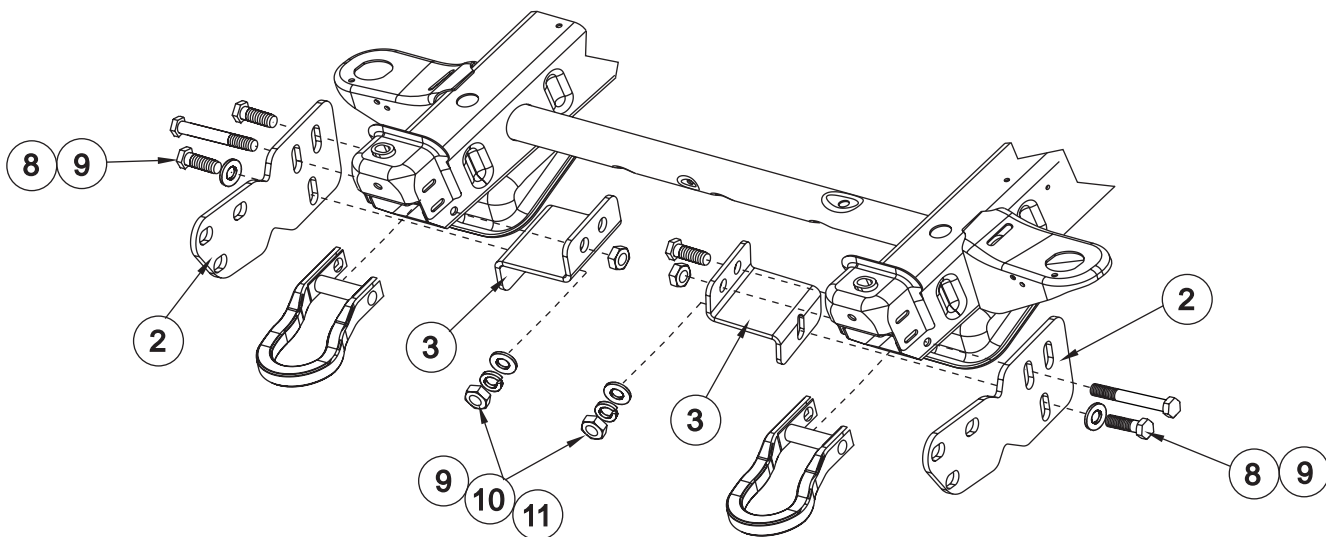

FIGURE 1
- STEP 3. Slide brackets in through the backside of the tow hook pockets. Align upper slots on brackets with holes on the outside of the frame ends. Secure brackets to bracket braces with with included M12 yellow fasteners. Reinstall tow hooks. Secure with factory hardware. **SEE FIGURE 1.** Leave loose. It may be necessary to trim the fascia around the tow hook area in order to properly align the brackets. **SEE FIGURE 3.**